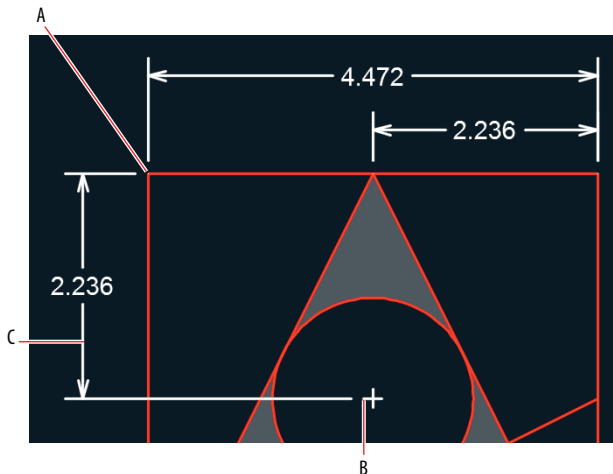

FIGURE 11.14 Creating another linear dimension
5. Type **DLI** (the alias for the DIMLINEAR command), and press Enter. Click points A, B, and C shown in Figure 11.14.
6. Type **DIMCONT** (the alias for the DIMCONTINUE command), and press Enter. Click point A, shown in Figure 11.14, to add another linear dimension below the previous one. Press Esc to end the command.